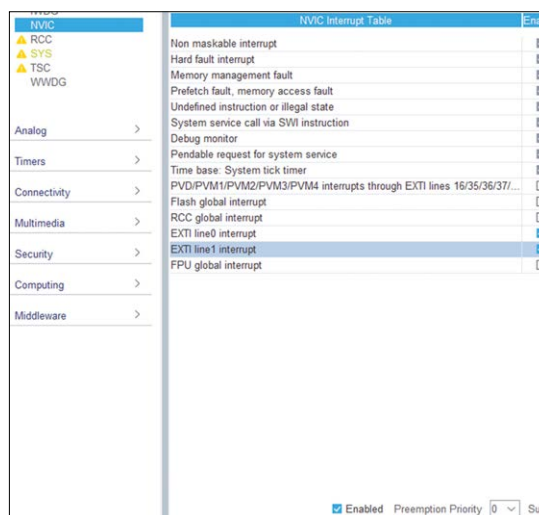

Figure 5.83: Configure the interrupt lines.
- Click **NVIC** and click to enable **EXTI line0 interrupt** and **EXTI line1 interrupt**. Set the **Preemption priority** and **Subpriority** to 0 as shown in Figure 5.83.